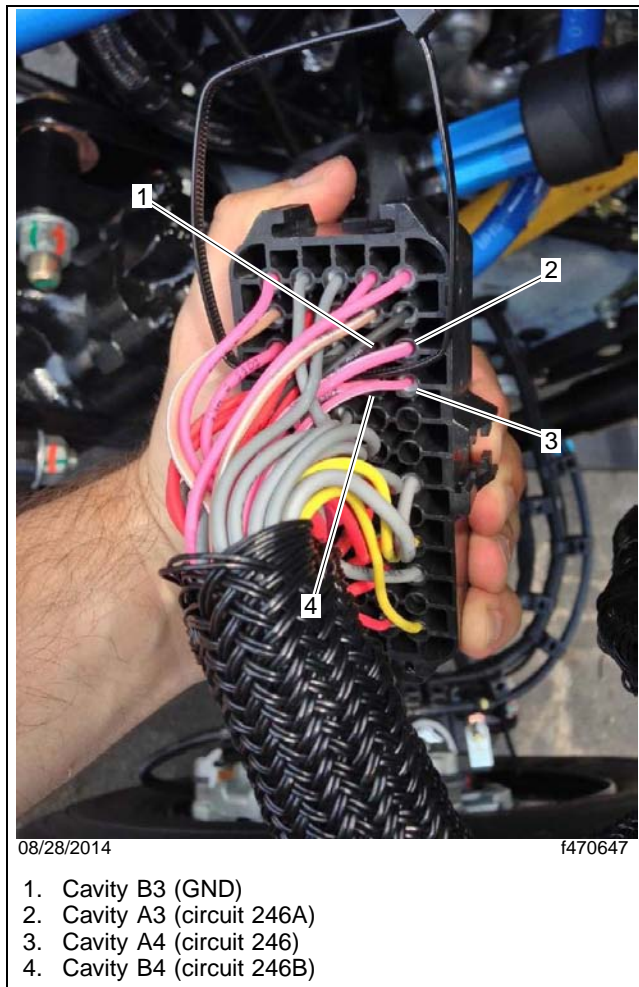
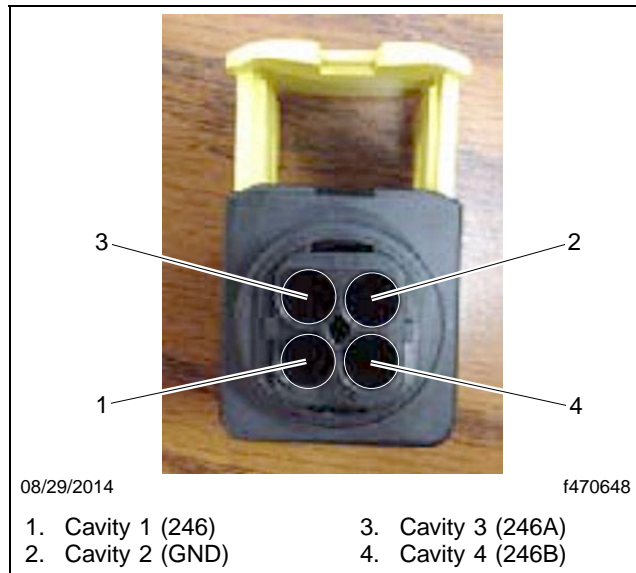

Fig. 15, Old Fuel Pump Wire Cavity Locations
Fig. 16, New Connector (wire insertion side shown)
- Using the pin removal tool, carefully remove the four wires from the PDM, as shown in **Fig. 15**. Install the wires in the new connector, shown in **Fig. 16**, in the following order.